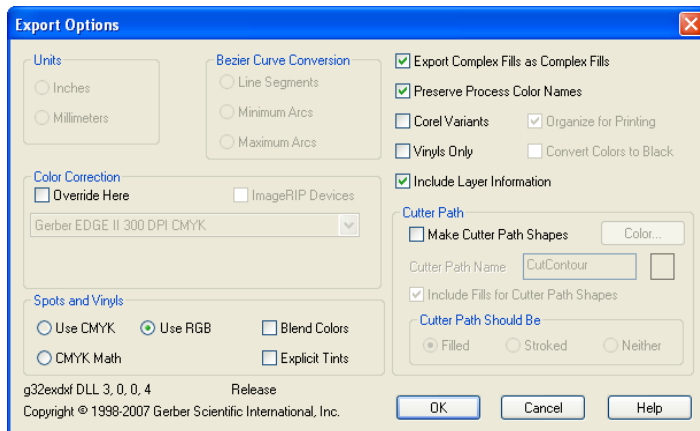

Figure 36
- 5. Check Export Complex Fills as Complex Fills, Preserve Process Color Names, and Include Layer Information. See Figure 36 on page 68.